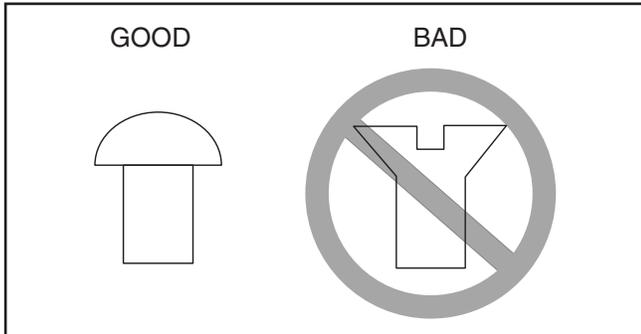

Figure 39. Correct and incorrect screw types for mounting faceplate to workpiece.
- Center the faceplate on the workpiece and attach it through the faceplate holes with non-tapered head wood screws as shown in **Figure 39**.
NOTICE: Only use tap screws or wood screws with non-tapered heads (**Figure 39**) to attach the faceplate to the workpiece. Do NOT use drywall screws or screws with tapered heads because these can split the faceplate, or the screws may snap off during operation.